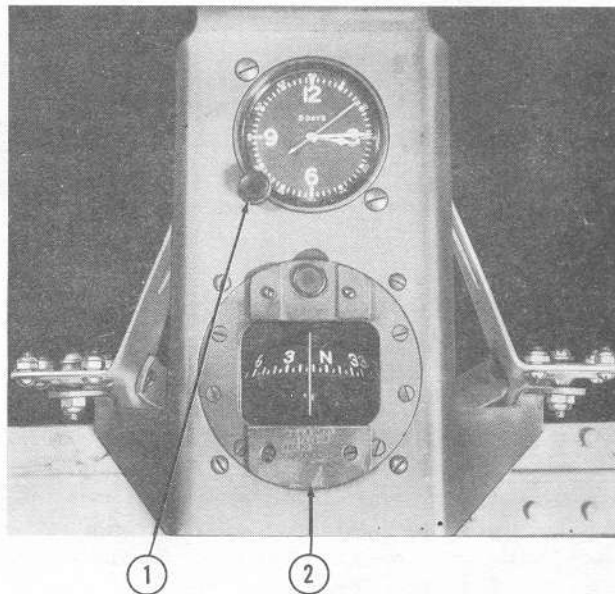

Figure 38—Bombardier's Compass Panel
(1) BOMBARDIER'S INSTRUMENT PANELS.
- (a) COMPASS. (See figure 38.)
- (b) CLOCK. (See figure 38.)